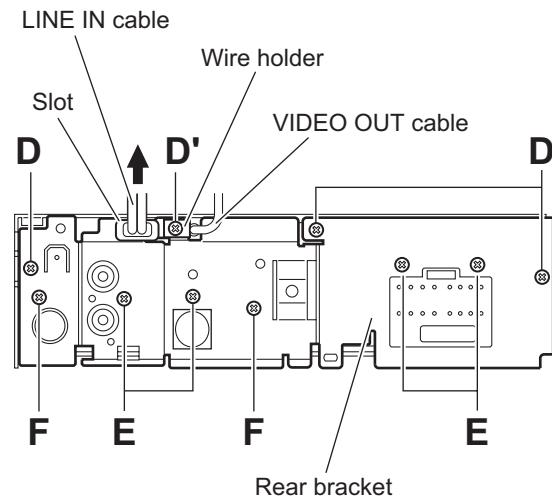

Fig.5
### 3.1.5 Removing the rear bracket (See Fig.5)
### 3.1.6 Removing the main board (See Fig.5 and 6)
- (1) Remove the three screws **D** and one screw **D'** attaching the rear bracket on the back side of the main body. (See Fig.5)